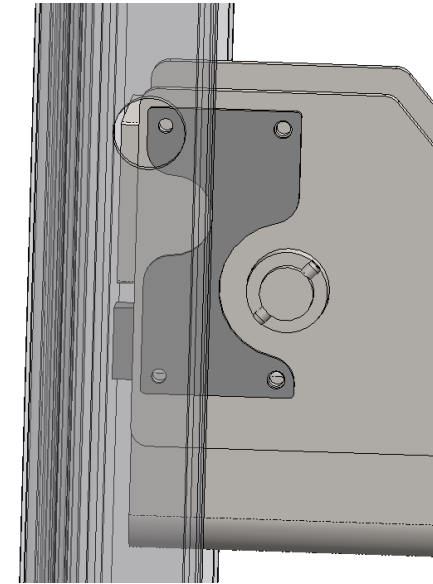

Figure 6
12. Fasten the drilling template to the front plate of the front support side cross-beam as shown in *Figure 6* using the (2) $\frac{1}{4}$ " tapped holes furthest away from the post.